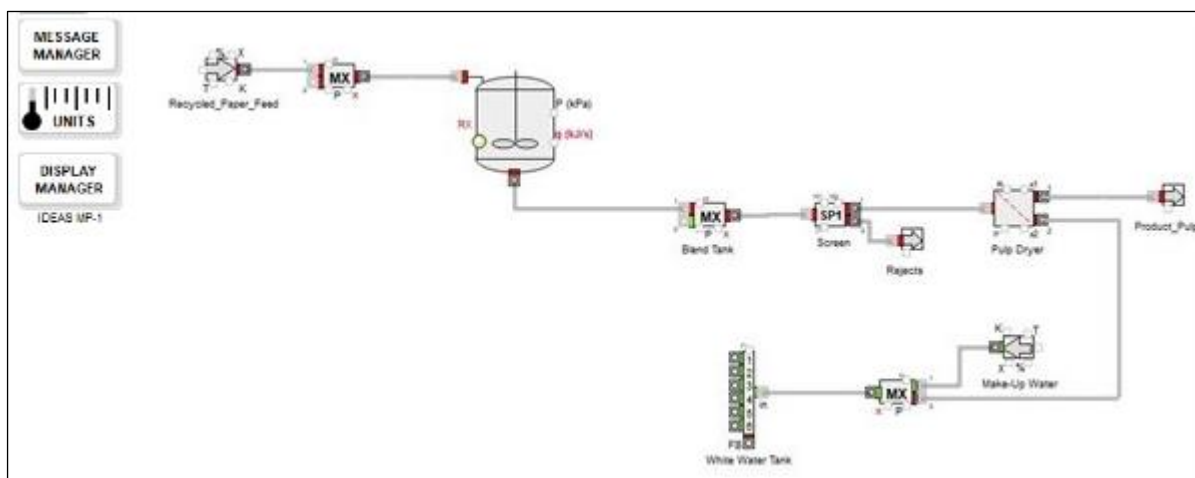
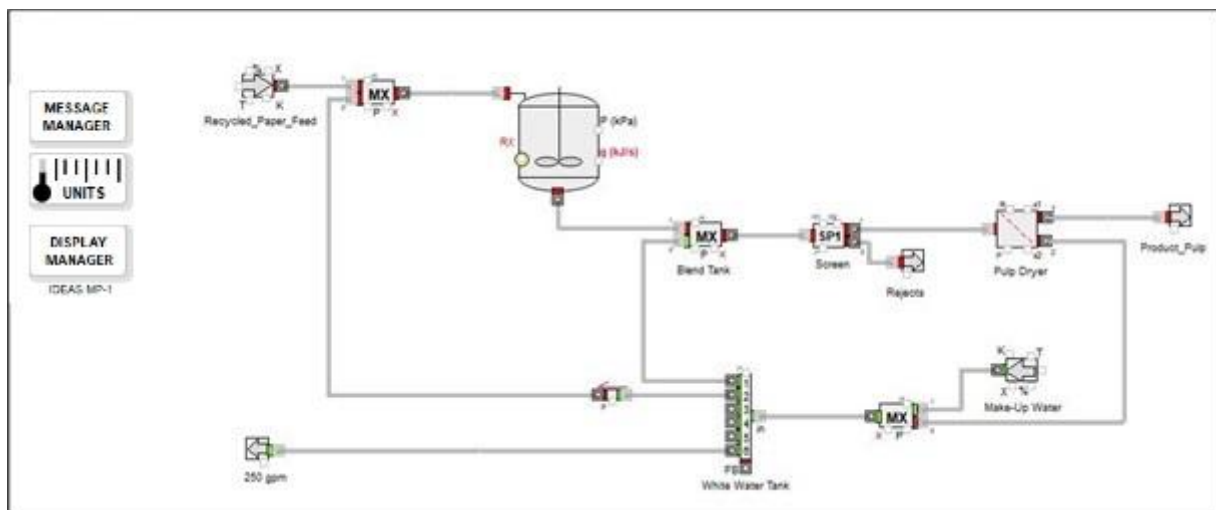

Figure 26: Placing and Connecting Objects for WW Tank
Figure 30: All Objects Placed, and Stream Connections Made
For the White Water Tank add a **Header** from Macro Primitives, a **Mixer** and a **Stream Source** from Material Properties. Place these objects below the objects placed previously and change the orientation of these objects so that they are facing left. Open the Mixer and on the Inputs tab select the **OUTLET CONTROL MIXER (B)** and **Flow** radio buttons (this changes the first input and output connectors to green, see Figure 26). Open the Stream Source and on the State Variables tab select the **Pressure** radio button (this changes the output connector to green, see Figure 26). Open the Header and on the Inputs tab click the **Demand Header** check box (changes the input connector to green, see Figure 30). Now connect the Stream source to the first input of the Mixer and the output of the Mixer to the Header. Next, connect the second output from the Phase Separator to the second input of the Mixer.
Place a **Flow Set** from Macro Primitives and a **Sink**, both oriented to the left. Open the Sink, and on the Sink Data tab select the Flow radio button (this changes the input connector to green, see Figure 30). Connect the first output of the Header to the second input of the Blend Tank Mixer. Next, connect the second output of the Header to the input of the Flow Set and the output of the Flow Set to the second input of the Mixer next to the Recycled\_Paper\_Feed Stream Source. Finally, connect the sixth output of the Header to the Sink. For Header objects, any output connector can be used (for example, using connectors 1, 3 and 5 would give the same results as using 1, 2 and 6 shown in Figure 30).